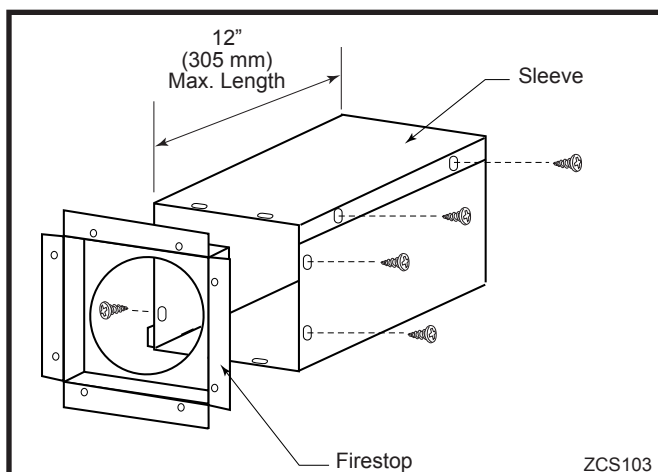

Fig. 23 Assemble the wall sleeve and firestop.
2. Measure the wall thickness and cut the wall sleeve sections to proper length (MAXIMUM 12"). Assemble the sleeve with the #8 sheet metal screws supplied. Attach the firestop plate to the sleeve end with the holes. (Fig. 23) **NOTE:** The wall sleeve is required in combustible walls only.
3. Install the Wall Firestop/Sleeve assembly into the wall cutout and fasten the firestop to the wall cutout framing members. (Fig. 23)